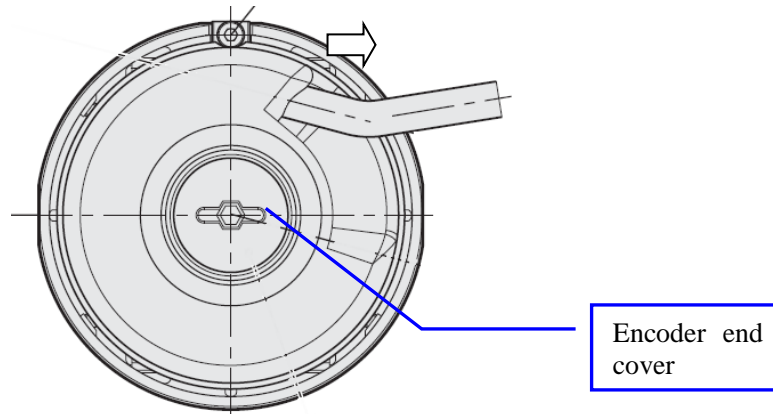

Figure 26: Remove Encoder end cover
1. Remove end cover of the encoder using the hex wrench (4mm). See Figure 26.